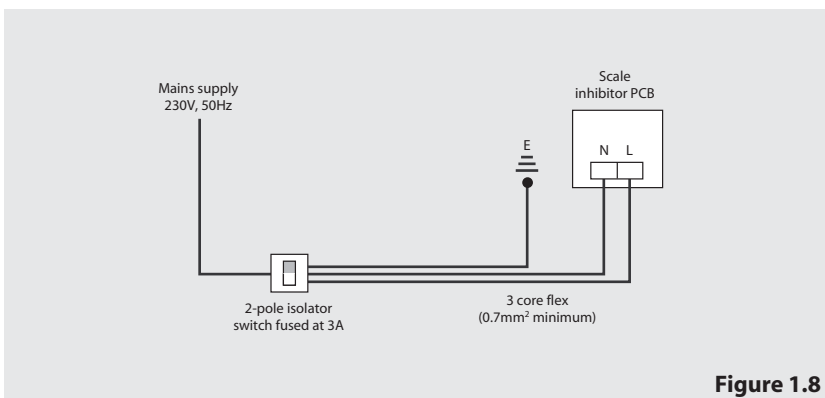

Figure 1.8
If a factory fitted scale inhibitor has been specified, then it should be wired to a permanent supply as shown in figure 1.8.
- 2) You may also run the external wiring from the adjacent isolator through the service slots provided in the base of the appliance to the scale inhibitor PCB terminals as shown in figure 1.8.